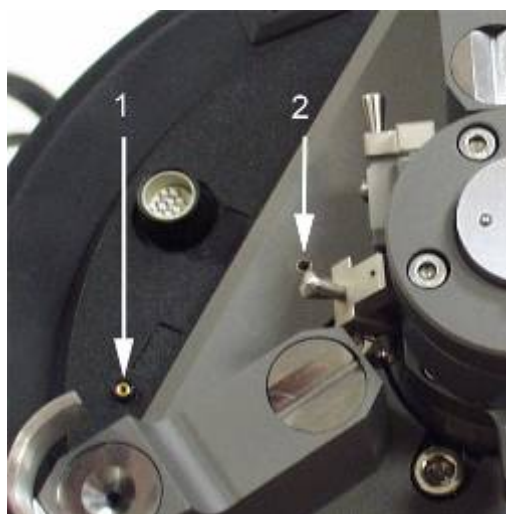

Fig. 2-103
- When using a special substrate the electric connection of the sample with the device is provided by a spring contact. The contact is connected through a connective wire with a plug to the correspondent receptacle placed on the block of feed. On the block of feed there are two receptacles (Fig. 2-103). Receptacle 1 is meant for provision of a fixed Bias voltage (**BV**) and receptacle 2 for grounding.